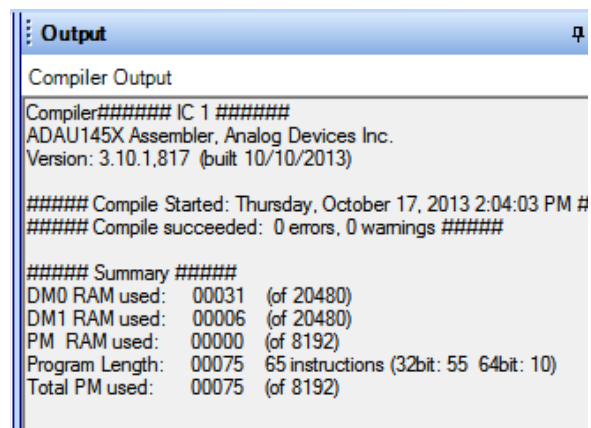

Figure 32. Compiler Output Window
- If the **Output** window was open at the time of compilation, a compiler output log is displayed, as shown in Figure 32. The **Output** window can be opened or closed by using the keyboard shortcut CTRL+4. The **Output** window shows the compiler output log only if it was open when the **Link-Compile-Download** button was clicked.